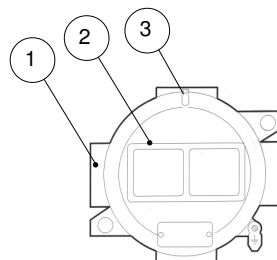

Fig. 1
To open a flameproof enclosure (see Fig. 1), the interlocking screw, item 3, in the cover has to be unscrewed. The cover, item 2, can then be removed from the base, item 1, by turning it anticlockwise.
After this, the cover shall be fixed in position with the interlocking screw of the cover (see Fig. 1, item 3).